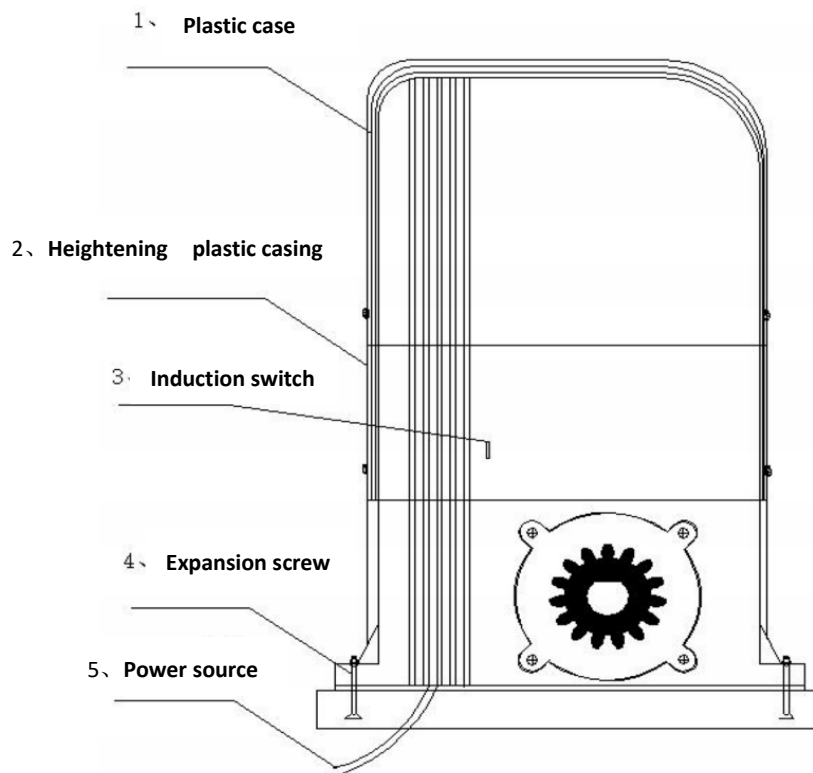
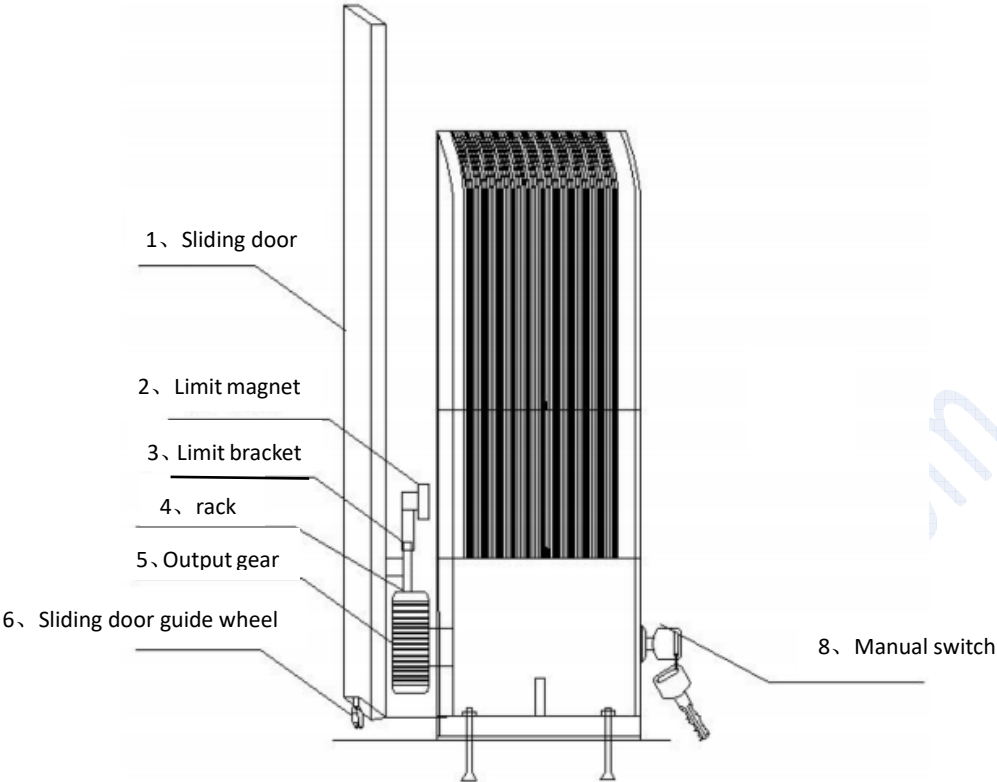
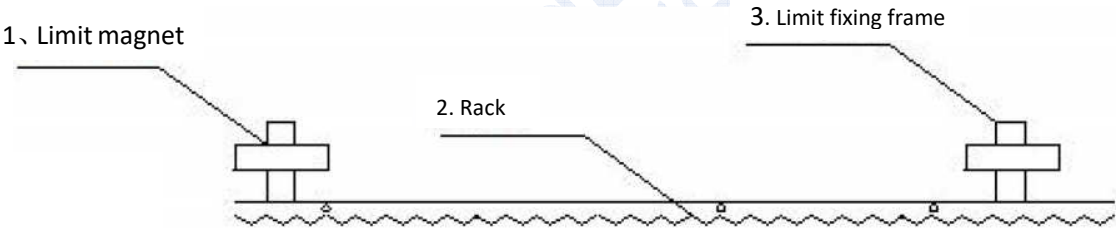

Figure 3
Figure 4
Figure 5
The basic installation of the door opening machine is shown in Figure 3, and the position relationship between the door opening machine and the translation door is shown in Figure 4. After the cement is solidified, place the door opener on the installation base plate. The installation base plate should be horizontal and adjusted to the appropriate position according to the direction shown in Figure 4. Then, the nut on the installation foot should be tightly protected to make the door opener firmly connected to the base.
(1) In the position where the output gear and rack can be reliably meshed, the cylindrical nut is welded in the appropriate position at the lower part of the translation door and then the rack is bolted on the round bolt nut.
(2) Adjust the position of the rack to ensure the engagement between the rack and the gear gap, and the engagement gap should be maintained at 1 mm.
(3) Install the magnetic switch as shown in Figure 4 and Figure 5. The main engine is equipped with a magnetic induction (or spring) switch. Control the correct position for opening and closing doors. Use the special key to open the clutch control compartment, and then use the clutch handle to unload the clutch of the door opener (make the handle straight to 90 degrees); Push the translation door to the appropriate limit position at both ends manually, and preliminarily fix the assembled translation door limiter on the rack at both ends; (As shown in Figure 5) Please refer to the circuit